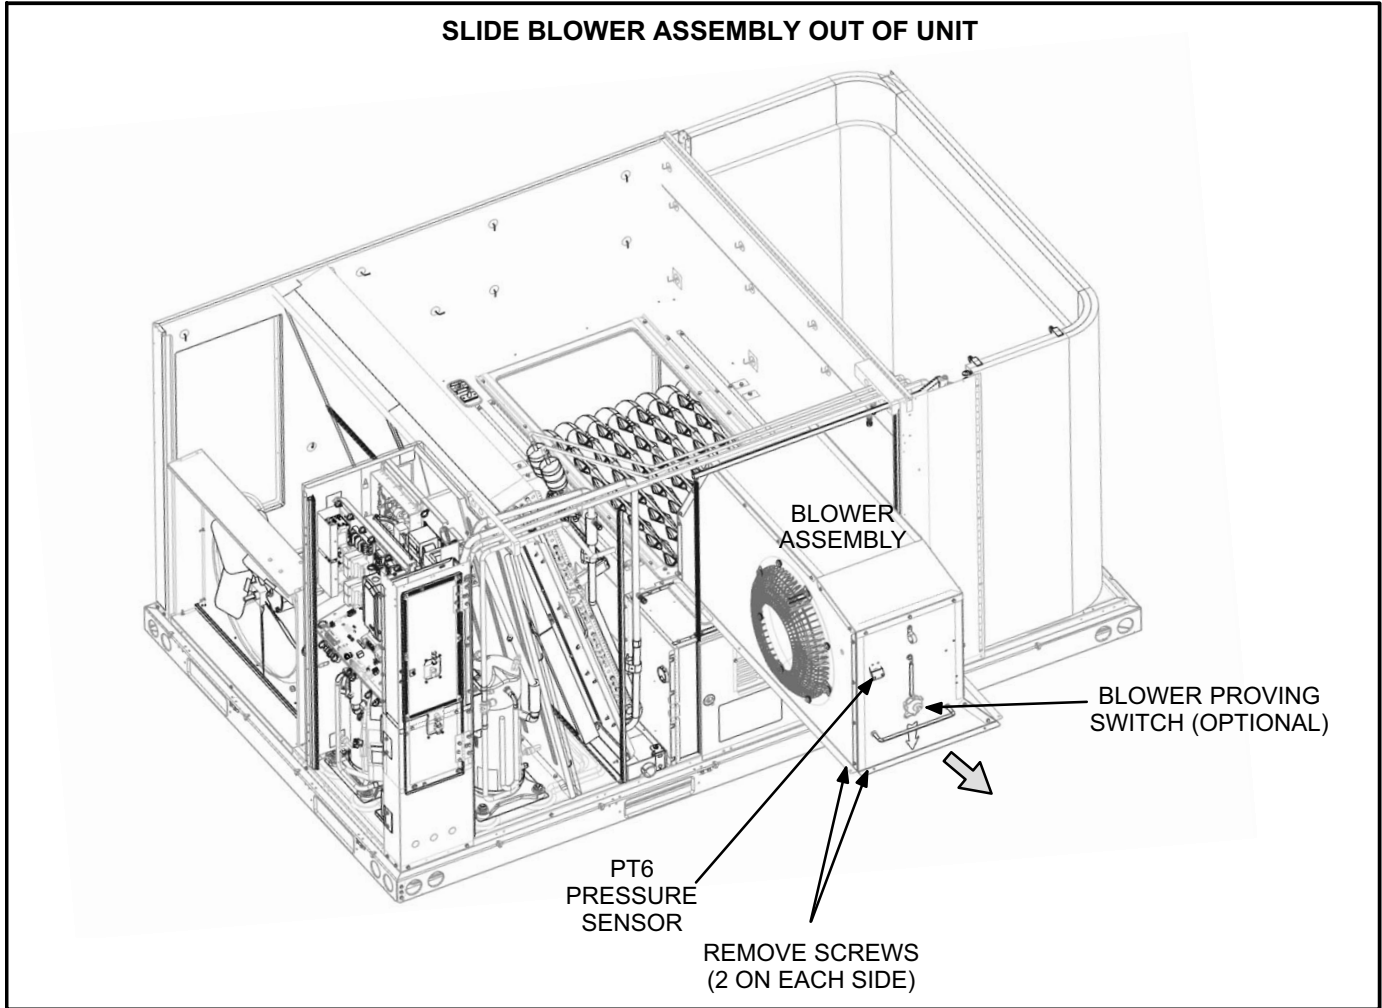

FIGURE 5
- 6- Remove four screws securing blower assembly to unit. See figure 5.
- 10- Install replacement blower assembly flanges into rails on the blower deck in the same manner it was removed. Secure into place using four screws shown in figure 5.